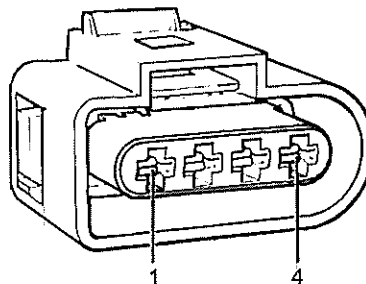

Fig 35 4-pin connector -socket
- 83.24 Check wires between test box and connector for breaks (see Fig 35) using vehicle wiring diagrams: